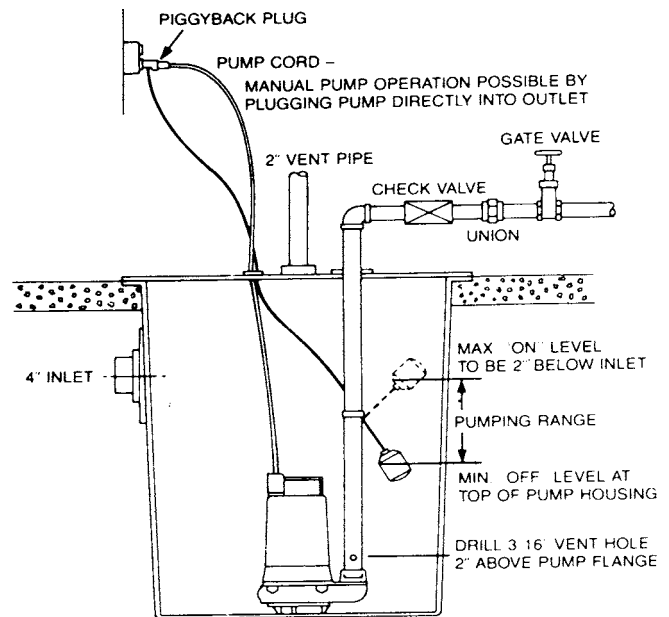

Figure 1
3.6 The pumps have either 1¼", 1½" or 2" internally threaded discharge connection. Depending on the installation requirements, steel, stainless steel, or plastic pipe may be used to plumb the pump. Whichever is used, a free-flow check valve should be installed in the discharge line to prevent back flow. A union should also be installed in the line to facilitate pump removal. A shut-off valve (gate or ball type) should be installed above the check valve and union. See Figure 1 for a typical installation diagram. The pump may be suspended from the piping, but under no circumstances should the pump be required to support the weight of the piping.